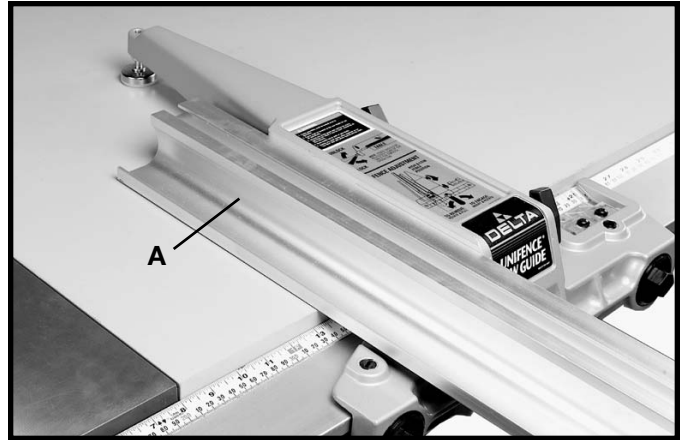

Fig. 107
The fence can be used as a cut-off gage when cross cutting a number of pieces to the same length. **IMPORTANT:** When using the fence as a cut-off gage, it is very important that the rear end of the fence be positioned in front of the saw blade. When using the fence as a cut-off gage, simply position the fence (A) to the front as shown in Fig. 107, or purchase a 12" long fence (B), as shown in Fig. 108. A typical operation using the 12" long fence (B) as a cut-off gage is shown in Fig. 109.